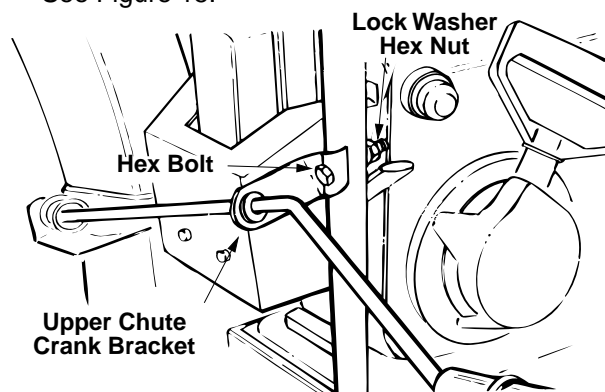

Figure 15
1. Insert hex bolt through the upper chute crank bracket (located on the chute crank). See Figure 15.